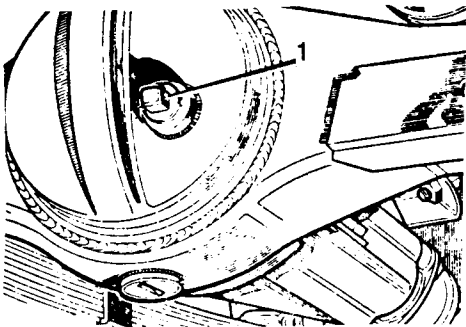

Fig J2.66
- (1) Refer to Fig J2.66. Remove the filler plug (1) at the front of the axle casing.